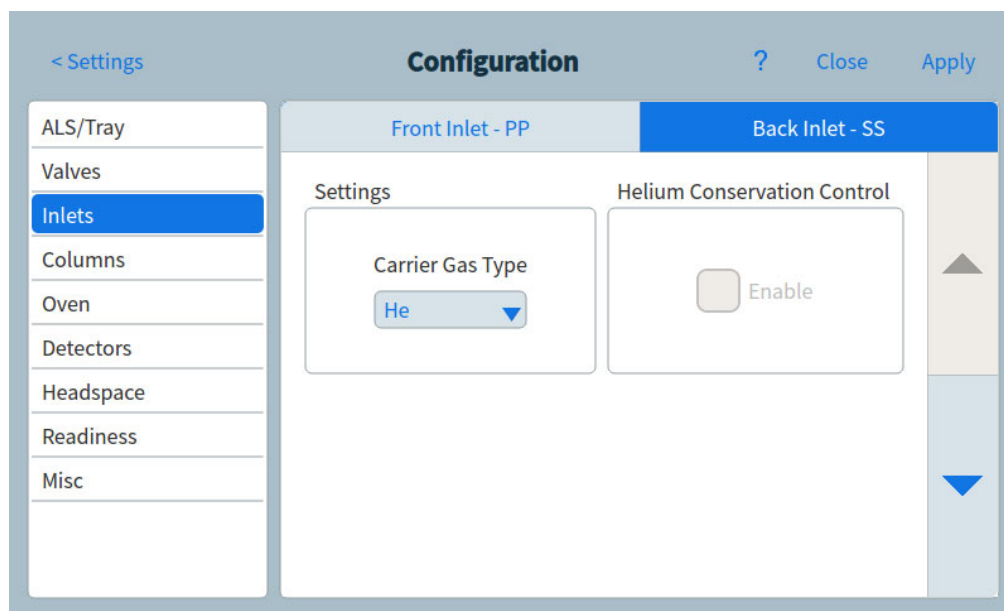

Figure 66. Inlets page
- 1 Select **Settings > Configuration > Inlets**. The properties for the selected device type appear on the right side of the screen. See **Figure 66**.